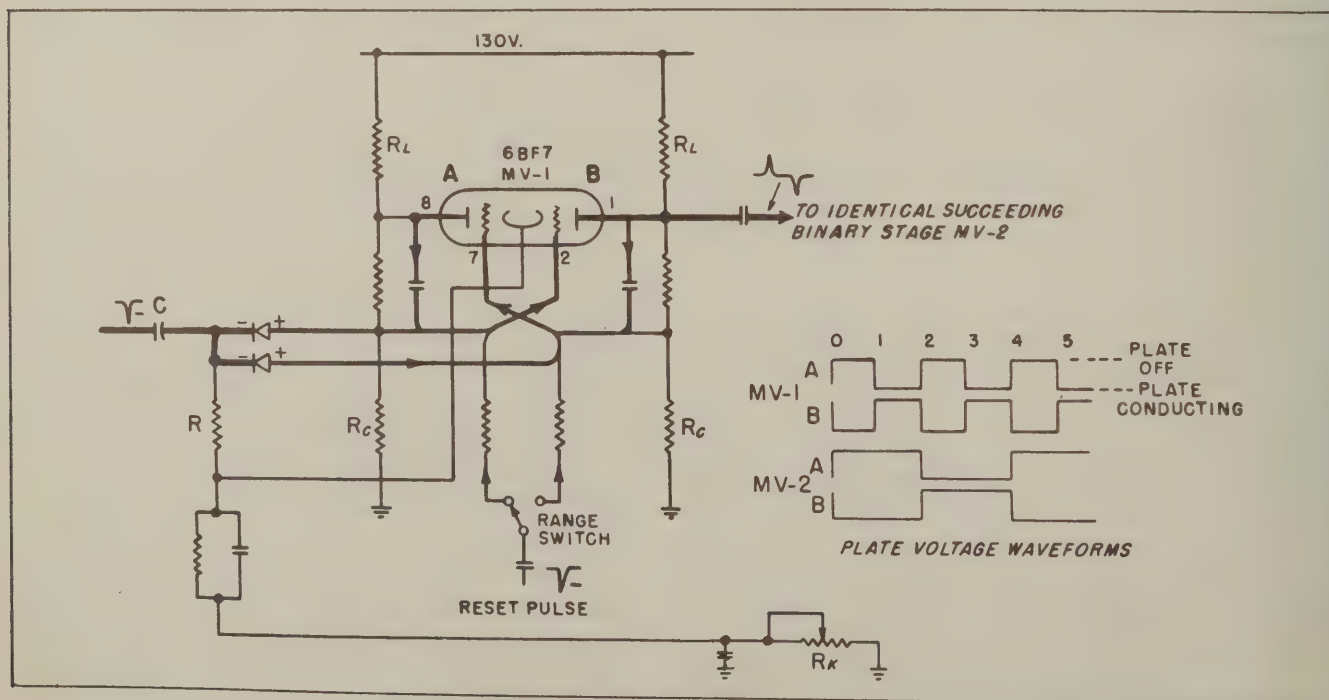

Figure 2-2. Basic Binary Counter Circuit
(1) All counter stages in the equipment are Eccles-Jordan type bi-stable (flip-flop) multivibrators. In this circuit two triodes (or pentodes) are so connected that when either one conducts the other is cut off. The multivibrator is stable in either of its two states of conduction, and can be reversed only by an externally applied triggering pulse. Refer to figure 2-2. Assume that section B of MV-1 is conducting when the first negative input pulse is applied, so that its plate is at the less positive of its two equilibrium voltages. The negative pulse cuts off the conducting section B, and through multivibrator action causes section A to conduct. The circuit conditions have reversed and the plate of section B rises to its more positive voltage. The second negative input pulse again reverses the operation returning the plate voltage of B to its lower value. The output voltage thus completes one cycle of a square wave for each two input pulses.
By referring to the plate voltage waveforms in figure 2-2, it is evident that each counter and differentiating stage divides its input count by two. Thus, if several stages are cascaded, the counting capacity of the circuit will be  $2^n$  (two to the nth power where n represents the number of stages). Since, for each stage, two input pulses are necessary for every output pulse, they are called binary counters. A four-stage binary counter will therefore normally count 16 input pulses for every output pulse.